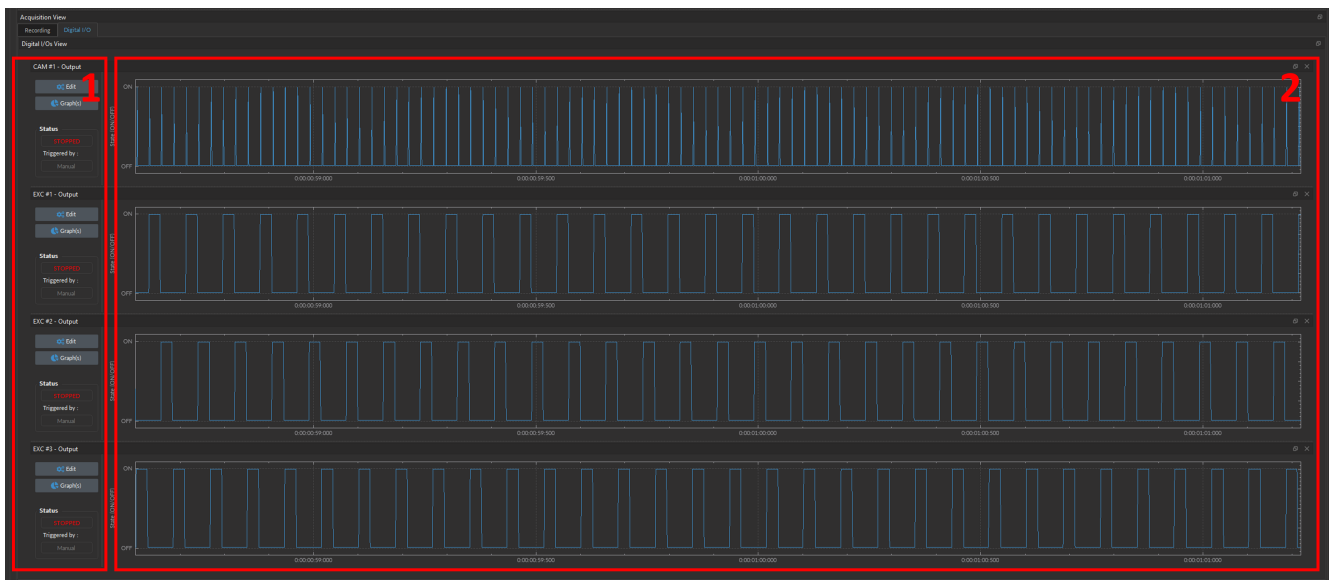

Figure 10.26: Graph(s) View
The **Graph(s) View** displays the active Digital channels. Each Digital I/O channel includes: (1) a **Control Box** (Fig. 10.26, 1), and (2) a **Graph** (Fig. 10.26, 2).
The **Digital I/O** traces are displayed in the **Graph** box (Fig. 10.26, 2). Each channel graph includes the following components: